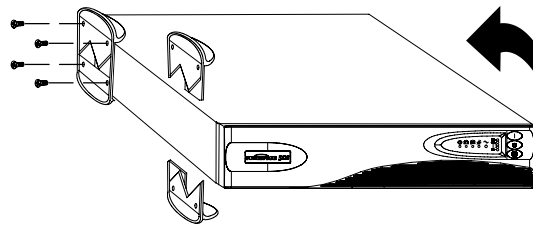

Figure 8. Installing UPS Pedestals (for One Cabinet)
2. Place the UPS horizontally so that the left end of the cabinet is accessible (see Figure 8).